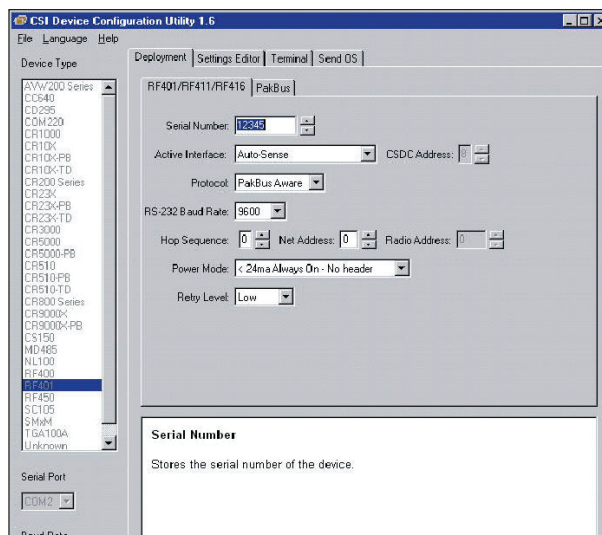

Figure 3. RF401 Setup
6. Press the "Program" button on the RF401, and DevConfig will display the Deployment panel—defaulting to the RF401/RF411/RF416 tab (see figure 3).